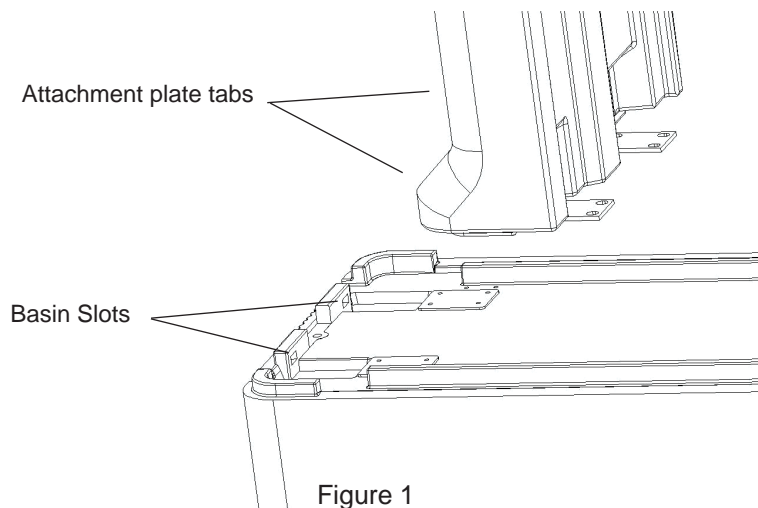

Figure 1
Step 1: Turn basin upside down. Take one leg and insert tabs of leg/basin attachment plates in slots in outside edge of basin (see Figure 1).